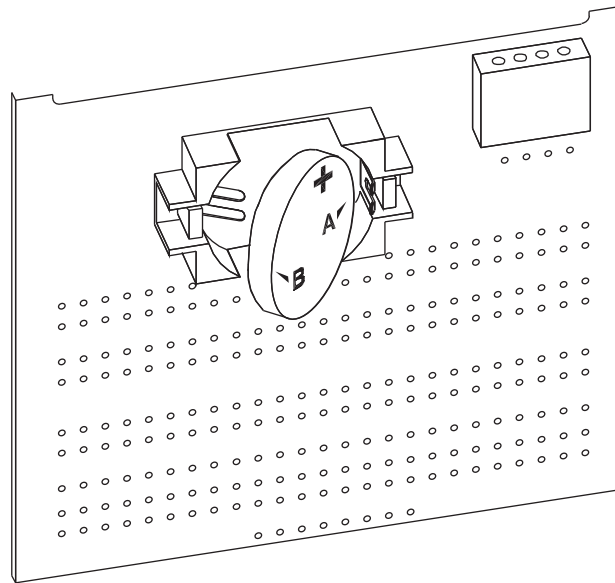

Figure 6.6: Battery Holder Detail
- b. Insert the RIGHT SIDE of the battery UNDER the 2 clips on the right side of the holder while gently pushing the battery against the INSIDE RIGHT WALL of the battery holder (Side A in Figure 6.6).
- c. Gently push the LEFT SIDE of the battery in until it snaps into place (Side B in Figure 6.6).